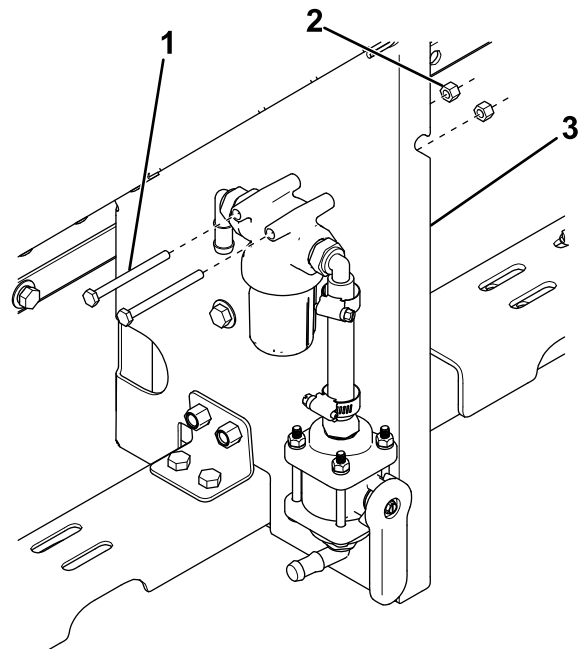

Figure 35
4. Mount the filter to the spreader leg using 2 bolts (1/4 x 3 inches) and nuts (Figure 35).